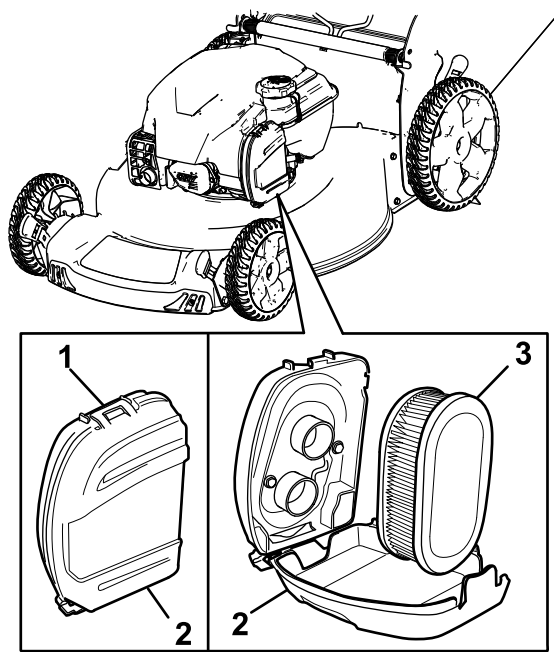

Figure 21
- 1. Unclip the top of the air-filter cover (Figure 21).
- 2. Remove the air filter (Figure 21).